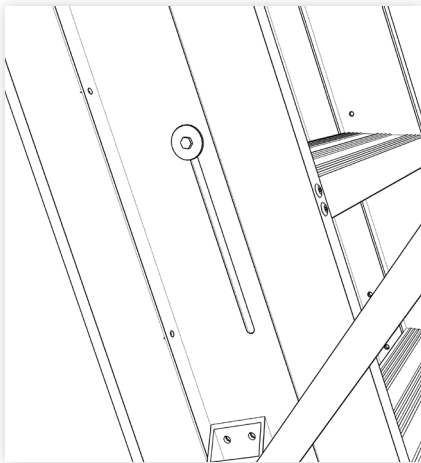

figure 11
13. The ladder can be adjusted up 45mm or down 45mm. Loosen the screws located through the slots where the top section stringers are fitted to the support frame. Move the whole ladder up or down the runners as necessary to ensure that the rubber feet are firmly on the floor and the ladder sections are closing neatly where hinged. When properly adjusted to height tighten the screws in the slots. (Note; On the A31 the adjustment bolts may be hidden behind a spring.) Fig 11.